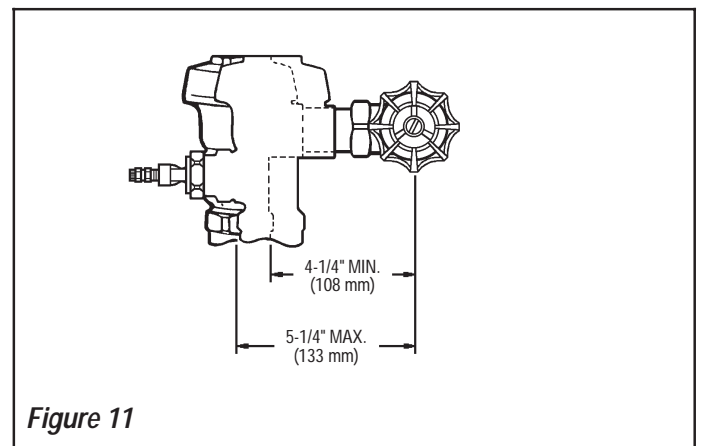

Figure 11
Step 4 — Install Flushometer SLOAN ADJUSTABLE TAILPIECE (Figure 11)